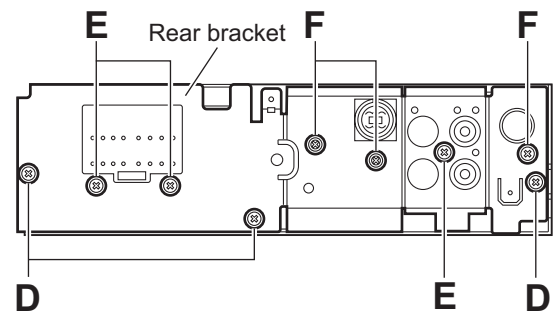

Fig.5
3.1.5 Removing the rear bracket (See Fig.5)